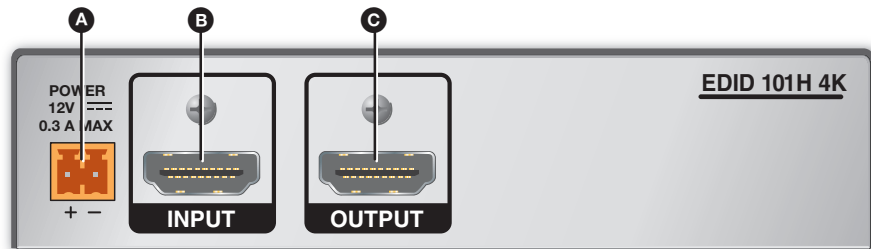

Figure 3. EDID 101H 4K Rear Panel
2. Connect the display device to the output connector of the EDID 101H 4K (see figure 3 **C** on page 5).